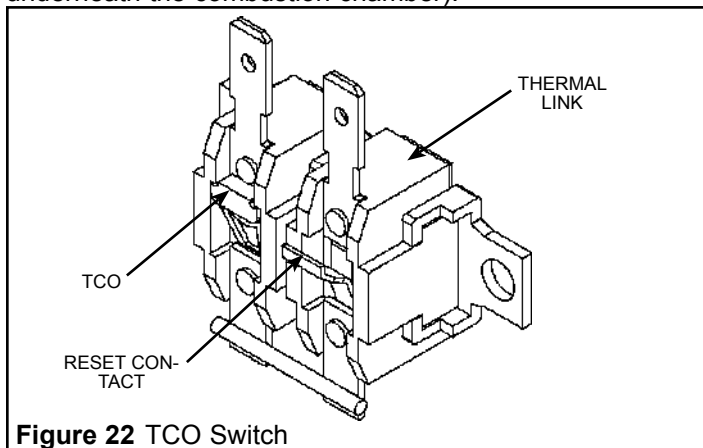

Figure 22 TCO Switch
3. Manually press the contact located on the front-right side of the TCO switch (Figure 22) until a click sound is generated. Do not use a metal tool or a screwdriver to press the TCO switch contact.